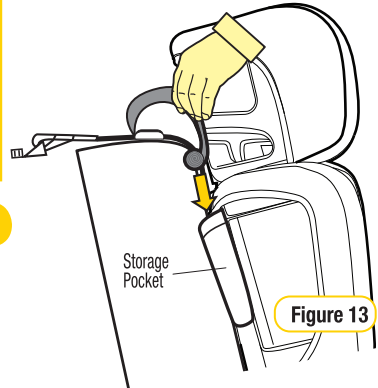

Figure 13
Step 7: Roll up and store any excess webbing, from the top tether strap, in the storage pocket provided on the restraint (refer to Figure 13).
After correctly installing the restraint in your car, roll up and place any excess tether strap in the storage pocket provided (refer Figure 13).